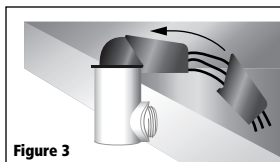

Figure 3
6. Slip Terminal Cover over wires and snap onto Switch housing **(Figure 3)**. Complete wiring connections following wiring diagram.